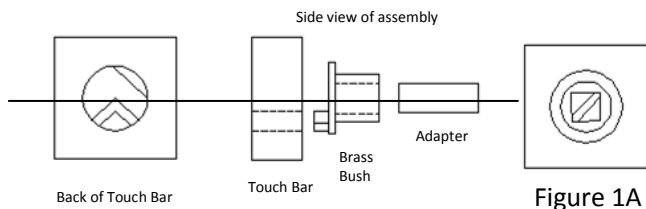

Figure 1
- **FOR LEFT HANDED** installation the Brass Bush must be located in the Touch Bar as seen in Figure 1 and the Adapter should be located within the Brass Bush as shown in Figure 1A.